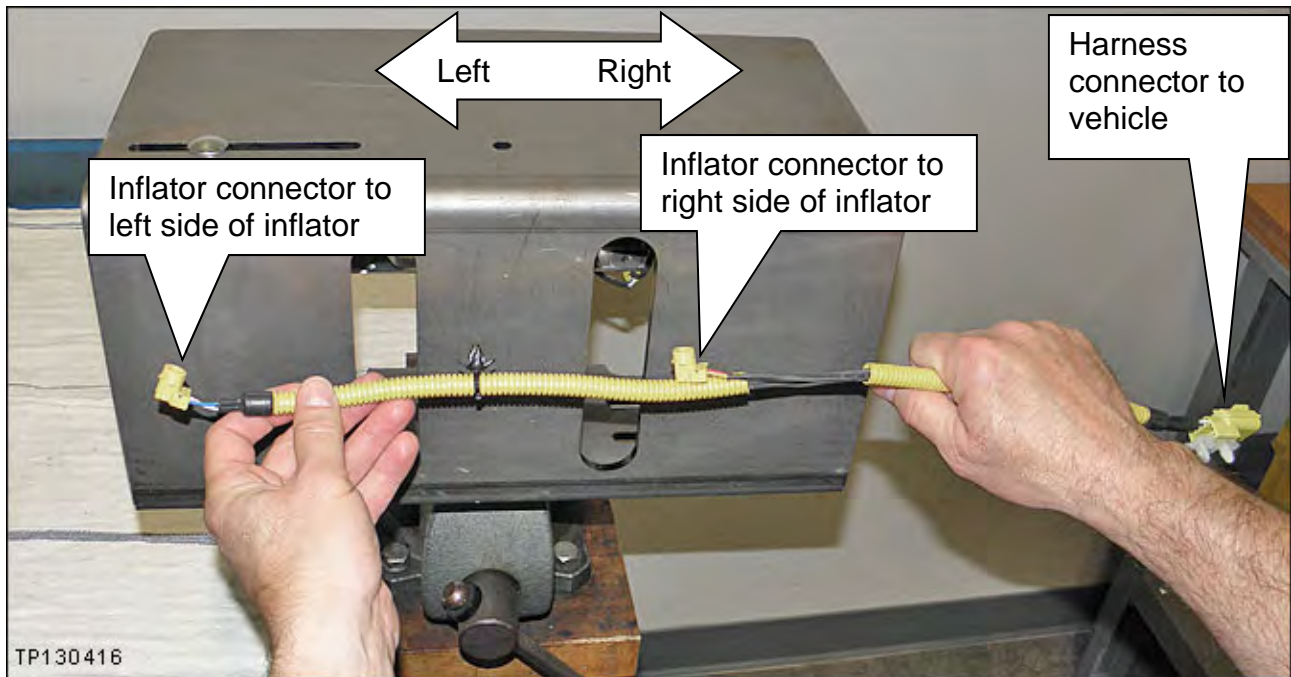

Figure 43
- **Make sure to attach the connectors to the correct ends of the inflator (Figure 43).**
- Left / Right orientation is as shown in Figure 43.
- Make sure to attach the correct ends (Figure 43).